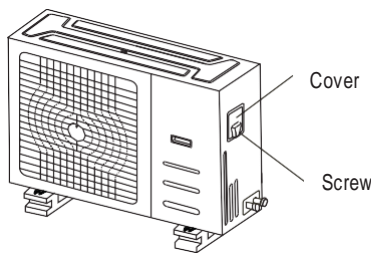

Fig. 8.1
2. Remove the electric cover of the outdoor unit. If there is no cover on the outdoor unit, disassemble the bolts from the maintenance board and remove the protection board (see Fig. 8.1, 8.2).